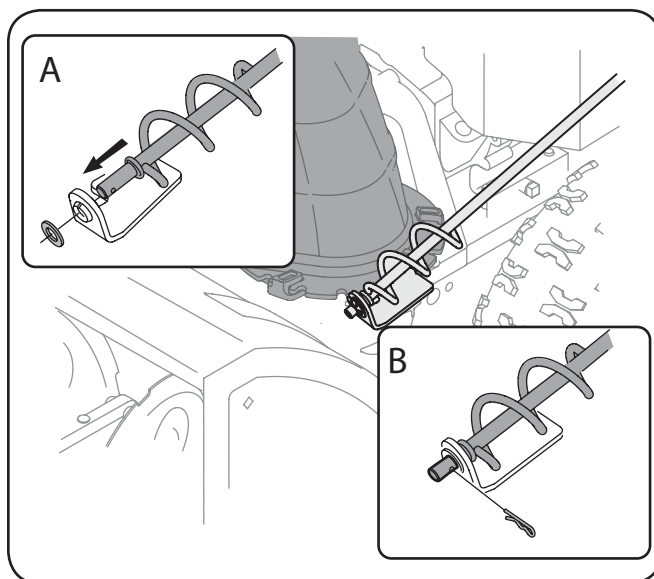

Figure 3-21
1. Remove the plastic cap (if present), flat washer and hairpin clip from the end of the chute directional control. See Fig. 3-21.